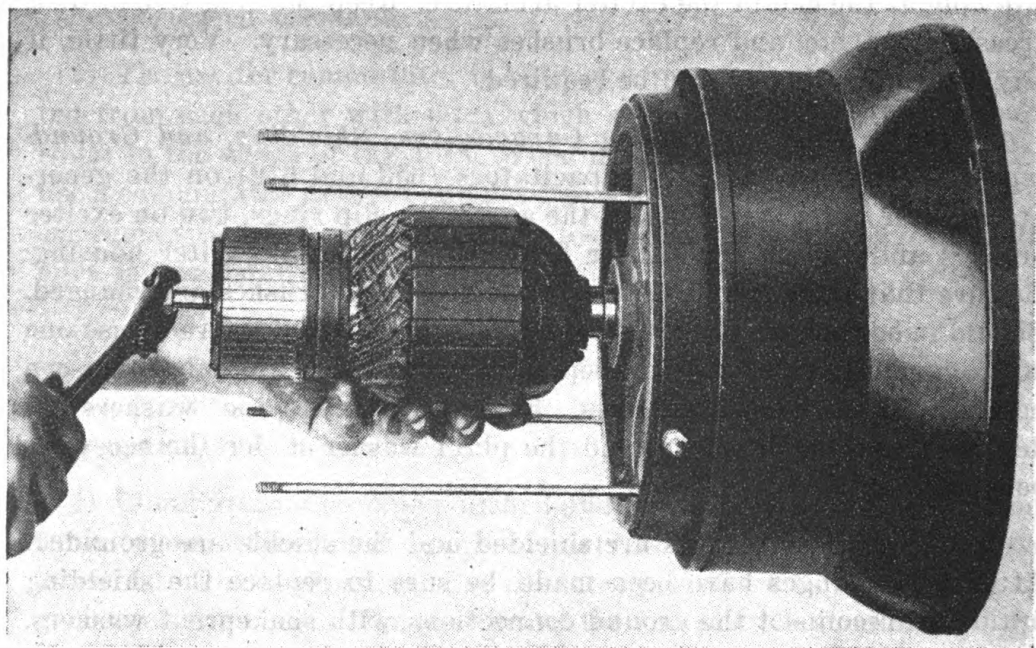

Figure 30.—Removing the Exciter Armature
h. Exciter Armature (Removal and Replacement).—The exciter armature core is machined to a light-pressure sliding fit on the generator-shaft extension. It is driven home and held tightly against the tapered driving fit on the shaft by bolt (643) in the commutator end of armature.
- (c) Remove stator frame (660) by taking off the nuts and washers and pulling the frame off the four holding bolts (665).
- (d) Straighten the locking clip on washer (644) and remove the armature holding bolt (643).
- (f) Turn the bolt with a wrench, as shown in Fig. 30 to loosen the armature (1 turn is sufficient) so that it can be pulled off by hand.